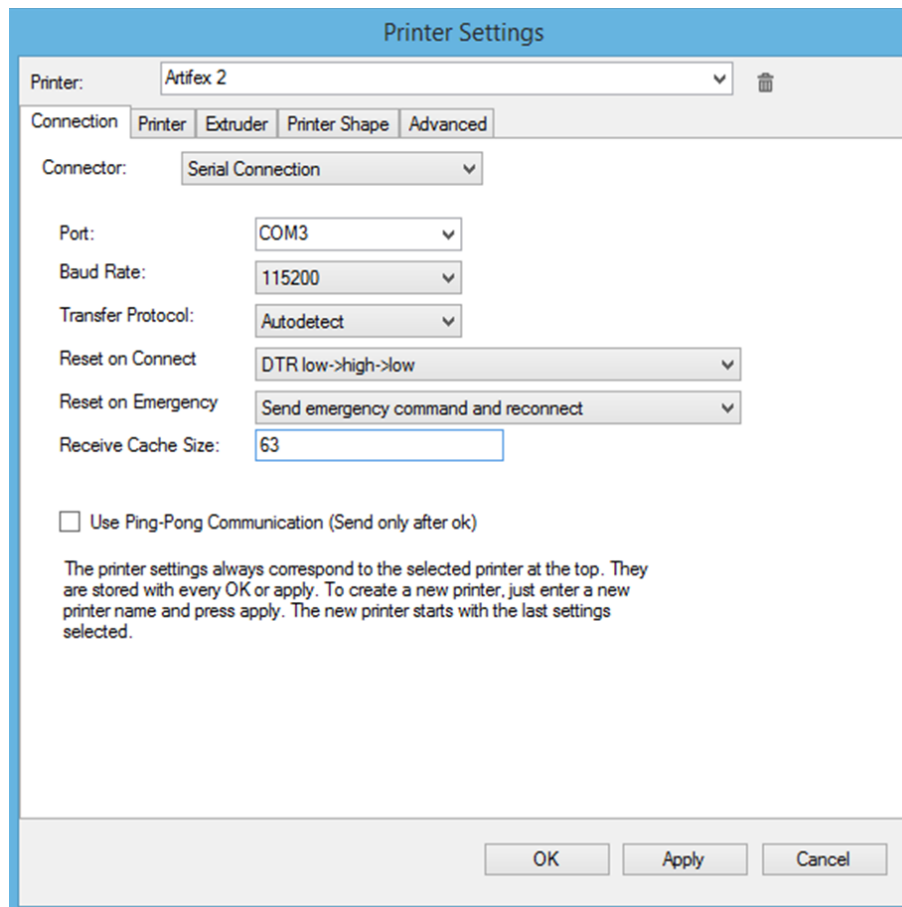

Figure 2.21: Printer Settings: Connection
- In the window of Printer Settings (Figure 2.21), enter the printer name “Artifex 2” on the top, and configure settings on the “**Connection**” page as shown in the figure. Make sure the port number matches the serial number used by your Artifex 2 3D Printer.